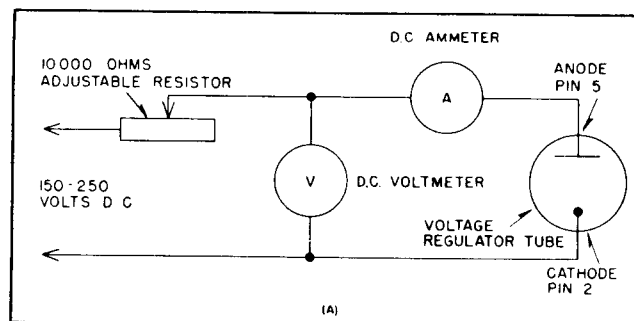

FIG. 9. Test of Voltage Regulator Tube.
C. If no oscilloscope is available, connect as shown in Fig. 9.